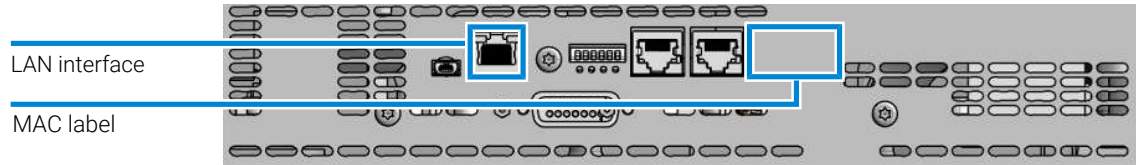
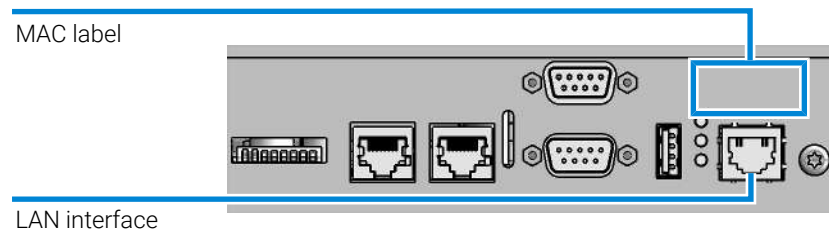

Figure 61: Location of LAN interfaces and MAC label (board with 6-bit configuration switch)
Figure 62: Location of LAN interfaces and MAC label (board with 8-bit configuration switch)
- 1 Note the MAC (Media Access Control) address for further reference. The MAC or hardware address of the LAN interfaces is a world wide unique identifier. No other network device will have the same hardware address. The MAC address can be found on a label at the rear of the module (see Figure 61 on page 371, or Figure 62 on page 371).